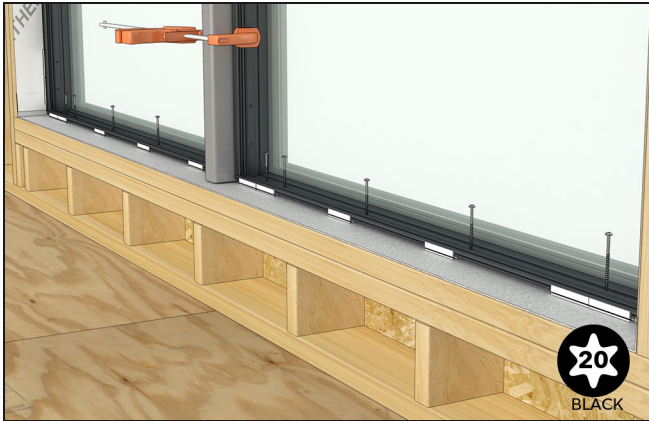

Figure 98
19. Making sure the second frame is aligned along the correct exterior plane, fasten the sill through pre-drilled holes in both frames. See Figure 98.